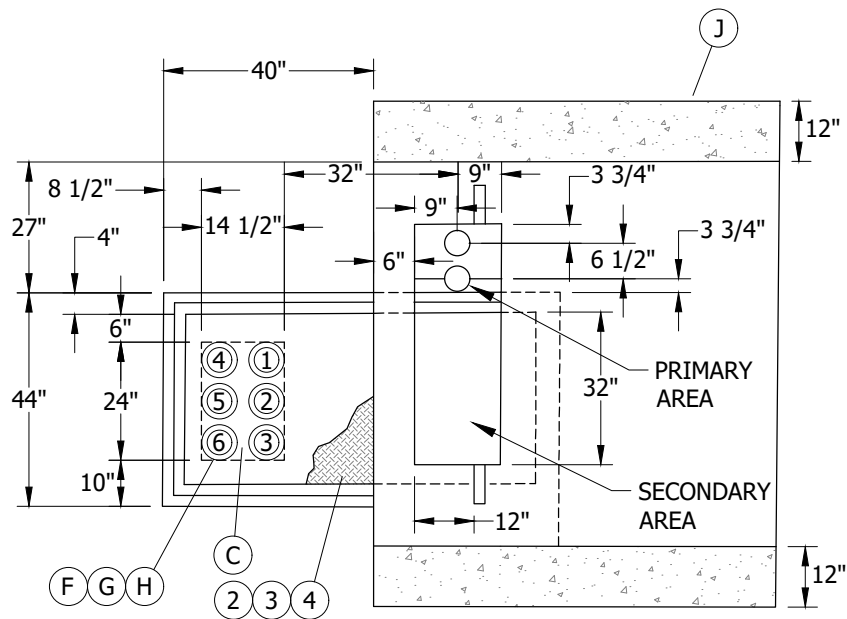

FIGURE 3
- (F) **FOR SECONDARY INSTALLATIONS IN A HANDHOLE**, ANY COMBINATION OF 3-INCH, 4-INCH, OR 5-INCH SECONDARY CONDUITS MAY BE USED, PROVIDED THEY DO NOT EXCEED THE TOTAL OF NINE OR THE MAXIMUM OF EACH SIZE CONDUIT (SEE FIGURES 3 & 4). TWO EXTRA 1-INCH OR TWO EXTRA 2-INCH CONDUITS MAY BE ADDED TO SERVE STREET LIGHT, RECREATION BUILDINGS, ETC.
- (G) WHEN THE NUMBER OF REQUIRED CONDUITS IS LESS THAN THE TOTAL SHOWN ON THE SKETCHES, INSTALL THE CONDUITS IN NUMBERED SEQUENCE AS SHOWN.
- (H) SEE DETAIL 1 FOR ADDITIONAL SECONDARY CONDUIT SIZES.
- (J) IN SOFT SOILS A CONCRETE BACKFILL (1-SACK MIX.) IS REQUIRED UNDER THE PAD, 12 INCHES BEYOND THE SIDE EDGES OF PAD AND 12 INCHES DEEP.
- (K) **PAD MUST HAVE A SUB-STRUCTURE: 3311-S MINIMUM.**